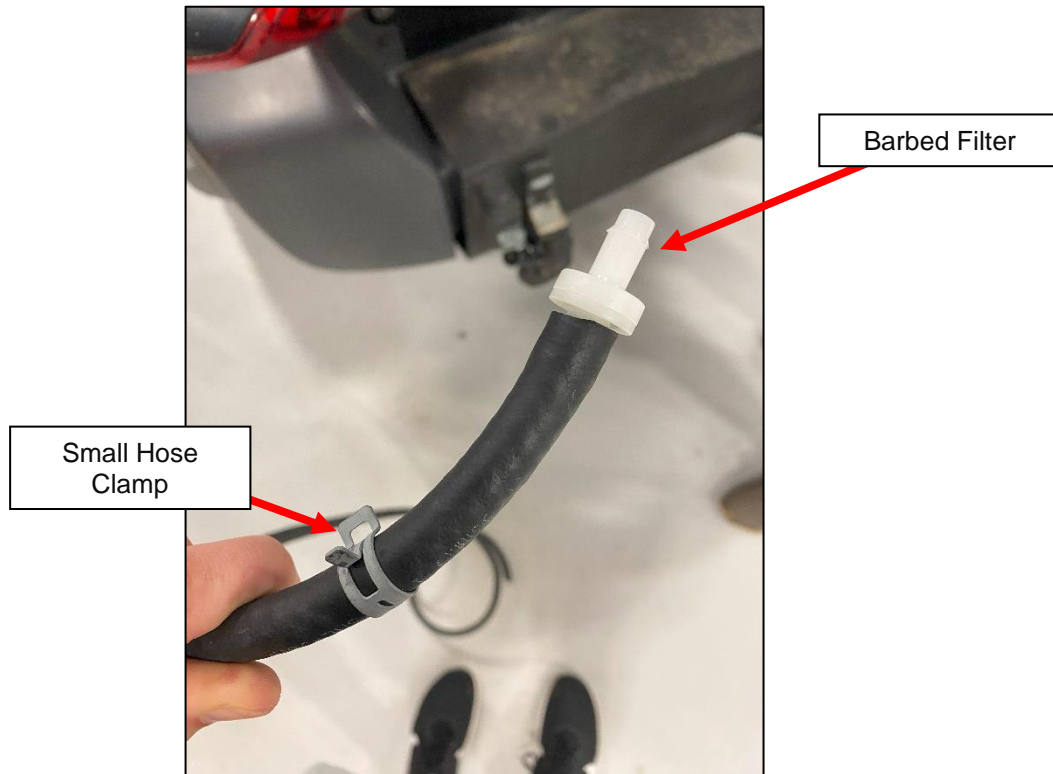

Figure 3
5. Locate the Hose, Barbed Filter, and (1) one small Hose Clamp. Install the Filter into one end of the Hose and secure with the Hose Clamp. *Figure 3.*